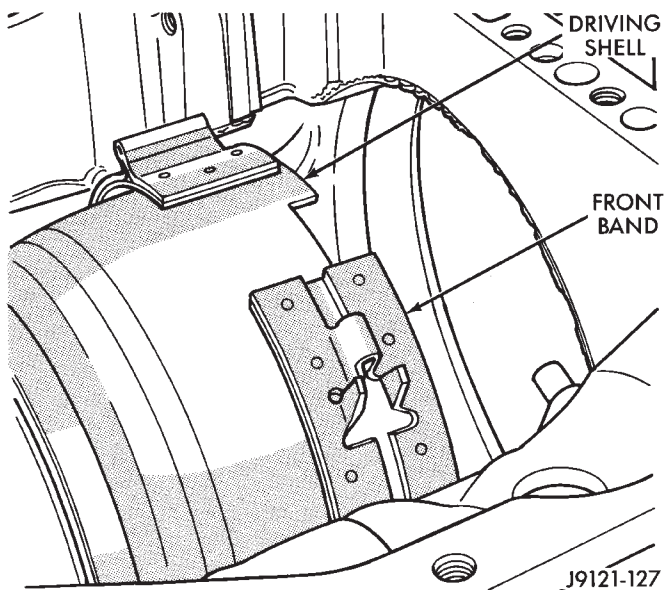

Fig. 98 Front Band Removal/Installation
(26) Slide front band off driving shell (Fig. 98) and remove band from case.